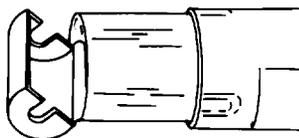

Figure 20. TG-13A Reflector
c. TG-13A. Used for heating solder termination sleeves and shrinking small-diameter tubing. Used for splice covers where wires must be shielded from heat and has to be ordered separately (Figure 20).